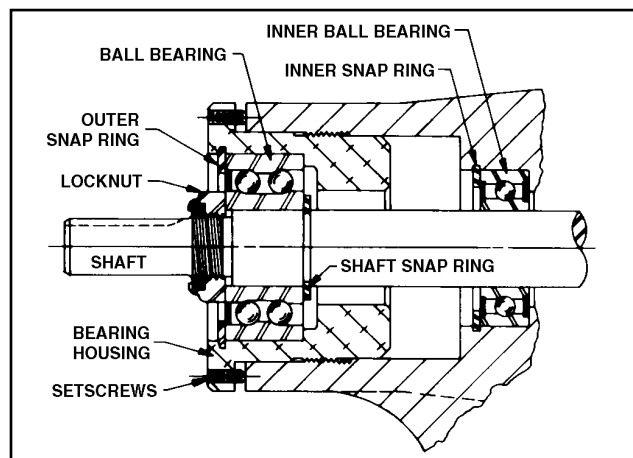
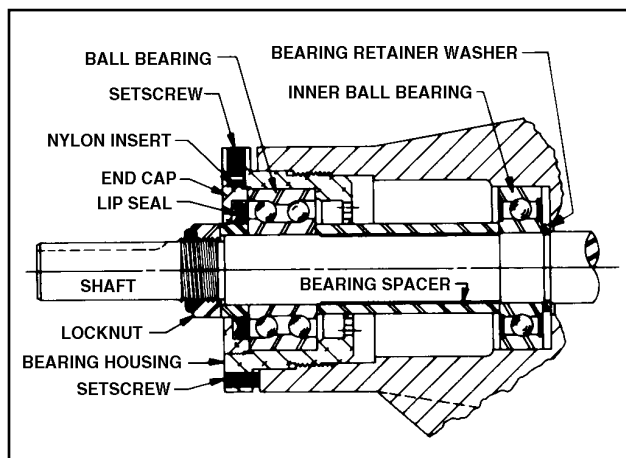

Figure 25 - Thrust-Bearing assembly (GG, HJ, HL)
Figure 26 - Thrust-Bearing assembly (AS, AK, AL)
5. Insert a brass bar or piece of hardwood in the port opening and between rotor teeth to keep shaft from turning. Turn the locknut counterclockwise and remove locknut. See Figure 25 or 26.
6. Loosen two setscrews in face of bearing housing and turn thrust bearing assembly counterclockwise and remove from casing. See Figure 25 or 26.
7. **GG, HJ, HL:** Remove snap ring from shaft. See Figure 25. **AS, AK, AL:** Remove bearing spacer from shaft. See Figure 26.
10. **AS, AK, AL:** Remove bearing retainer washer. The washer may have stayed with rotor and shaft when removed or is against ball bearing. See Figure 26.
GG, HJ, HL: Remove outer snap ring from bearing housing and remove ball bearing. See Figure 25.
AS, AK, AL: Loosen two set screws in flange outside diameter. Rotate end cap and lip seal counterclockwise and remove. Remove ball bearing. See Figure 26.
12. **GG, HJ, HL:** Install shaft snap ring in groove in the shaft. See Figure 25.
AS, AK, AL: Install bearing spacer over shaft and against single row ball bearing. See Figure 26.
13. **Pack lubrication chamber between** inner ball bearing and double-row ball bearing in the thrust-bearing assembly approximately one-half full of multipurpose grease, NLGI #2. The thrust-bearing assembly will take the remaining space. See Figure 25 and 26.
GG, HJ, HL: Install ball bearing into bearing housing with shield side toward coupling end of shaft. See Figure 26. Install snap ring into bearing housing to retain ball bearing. This snap ring has a tapered edge to fit tapered groove in bearing housing. The tapered edge is located away from ball bearing.
AS, AK, AL: Install ball bearing into bearing housing. Install lip seal in bearing housing end cap. The lip should face towards end of shaft. Put bearing spacer collar in lip seal and install in bearing housing and tighten setscrews securely. See Figure 26.
See Figures 25 and 26.